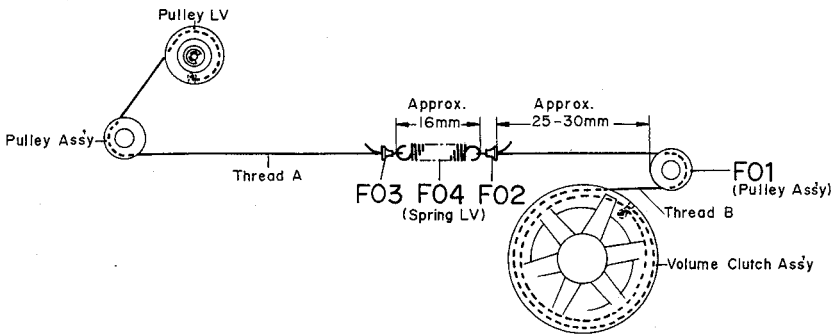
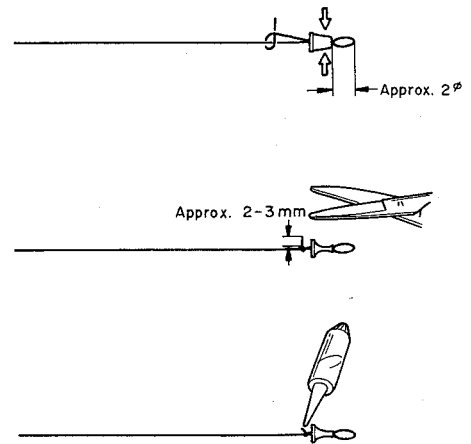

Fig. 5.2.11
Fig. 5.2.12
- (10) Refer to Figs. 5.2.11 and 5.2.12. Remove scotch tape which has been temporarily attached to Volume Clutch for fixing Thread B. Pass Thread B round Pulley F01. Then by rounding off with pliers, fix the Thread Guide F02 at the end of the thread so that the end of the thread comes 25 – 30 mm from the Pulley F01. Tie the thread, cut the end 2 – 3 mm from the knot, and bond the knot with AVDEL BOND #C2 as shown in Fig. 5.2.12.
- Mount Spring LV F04 to Thread B. Remove the tape which was used to fix Thread A, then mount Thread A to Spring LV F04 through Thread Guide F03. By rounding off with pliers, fix Thread Guide F03 so that the spring elongates to about 16 mm as shown in Fig. 5.2.11. Tie the thread, cut the end 2 – 3 mm from the knot, and bond the knot with AVDEL BOND #C2.
- (11) Remove the temporarily fixing tape which was used to fix the Pulley RV, then connect the connector